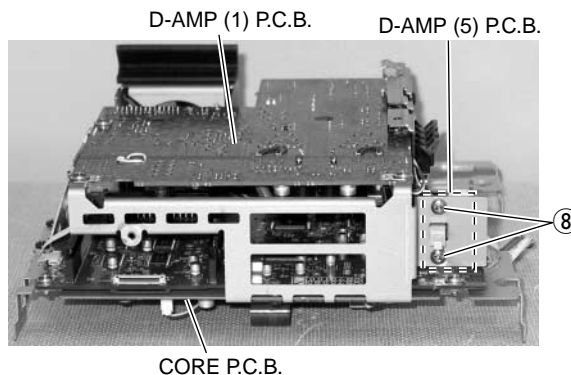

Fig. 6
- Remove 2 screws marked [⑧]. (Fig. 6)
- ⑧のネジ2本を外します。(Fig. 6)